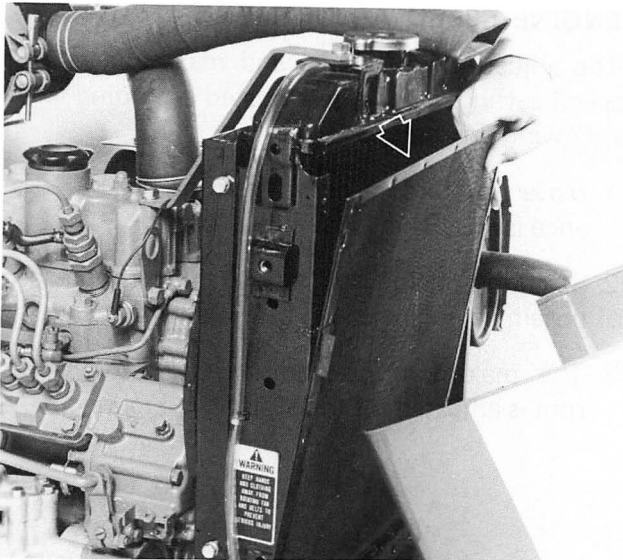

Figure 44 – Radiator Screen
3. Keep the radiator fins clear of chaff or dirt to allow free passage of air (Figure 44).
5. Clean the radiator front screen (Figure 44).